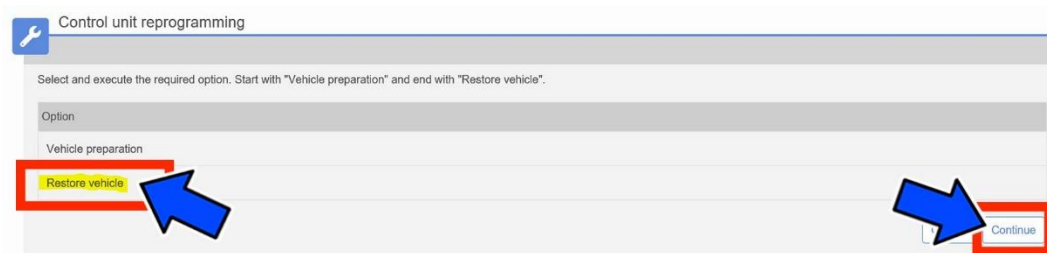

Figure 40 - Restore Vehicle
19. Select “**Restore Vehicle**” and then click “**Continue**” (Figure 40).